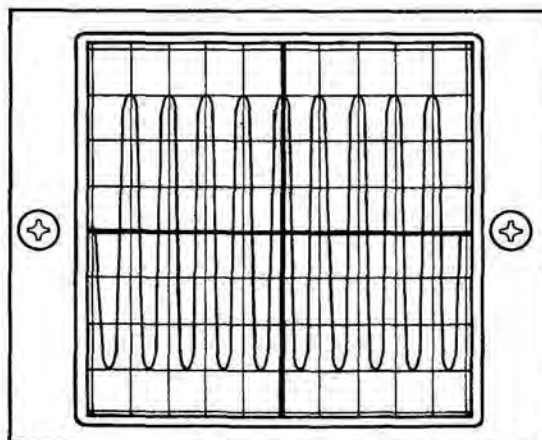

Figure 3-23 Displayed Waveform Measuring 6 Graticule Divisions in Height
5. Adjust VAR/OFF Control (25) cw until DEVIATION/WATTS Meter (1) indicates 1.5 kHz and verify displayed waveform on CRT is 6 graticule divisions peak-to-peak (± 0.5 graticule divisions) as shown in Figure 3-23.
6. Rotate DEV/POWER Control (48) to "6 kHz" and DEV-VERT Control (33) to "6 kHz".
7. Adjust VAR/OFF Control (25) cw until DEVIATION/WATTS Meter (1) indicates 6 kHz and verify that the displayed waveform on CRT Display (34) is 6 graticule divisions peak-to-peak (± 0.5 graticule divisions) as shown in Figure 3-23.
9. Set RCVR WIDE/MID/NARROW Switch (12) to "MID".
10. Rotate DEV/POWER Control (48) to "20 kHz" and DEV-VERT Control (33) to "15 kHz".
11. Adjust VAR/OFF Control (25) cw until DEVIATION/WATTS Meter (1) indicates 15 kHz and verify that the displayed waveform on CRT is 6 graticule divisions peak-to-peak (± 0.5 graticule divisions) as shown in Figure 3-23.
12. Adjust VOLUME Control (19) for a comfortable listening level, and verify the presence of audio.